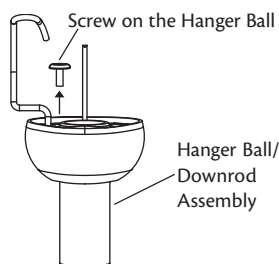

Figure 13 - Removing the screw from the hanger ball
1. Remove the screw on the hanger ball to disassemble it from the downrod as shown in Figure 13.